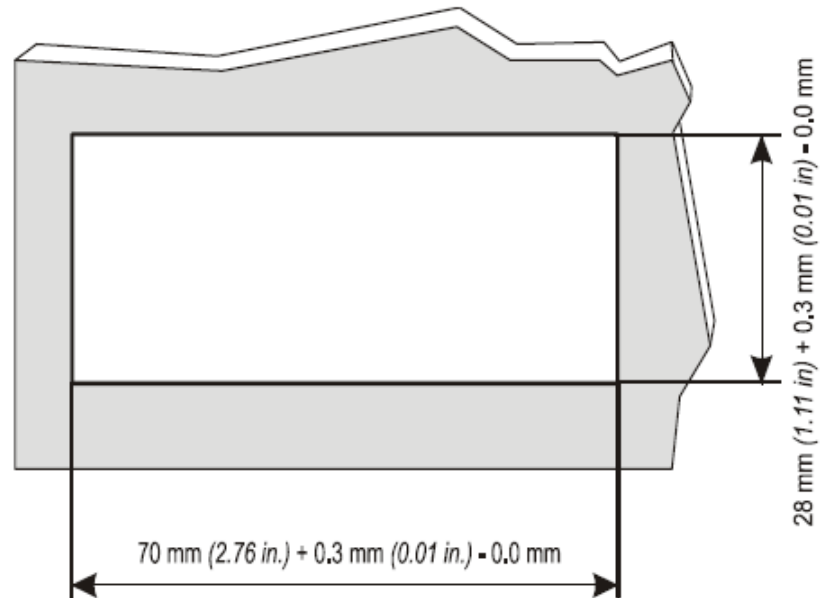

Figure 5: Panel Cutout, mm (in.)
1. Cut a cutout in the mounting panel with the following dimensions (Figure 5).